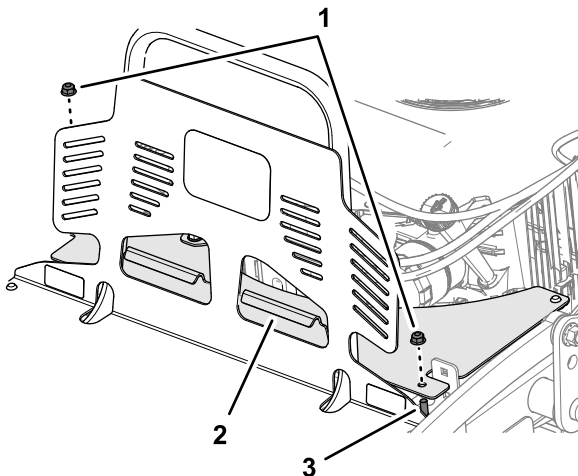

Figure 38
3. Align holes guard extension over the 2 carriage bolts and the flange of the extension over the openings in engine guard (Figure 38).